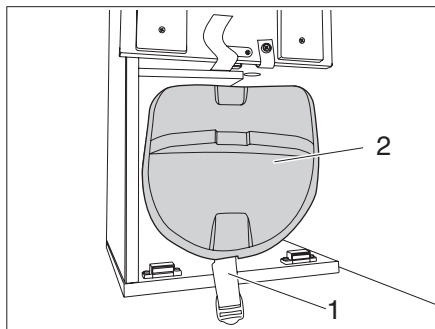

Fig. 59 Gas bottle compartment
- ▶ Undo the fixing belt (Fig. 59,1).
- ▶ Remove cover (Fig. 59,2).
- ▶ Close the cover (Fig. 59,2) and secure it with a fixing belt (Fig. 59,1).